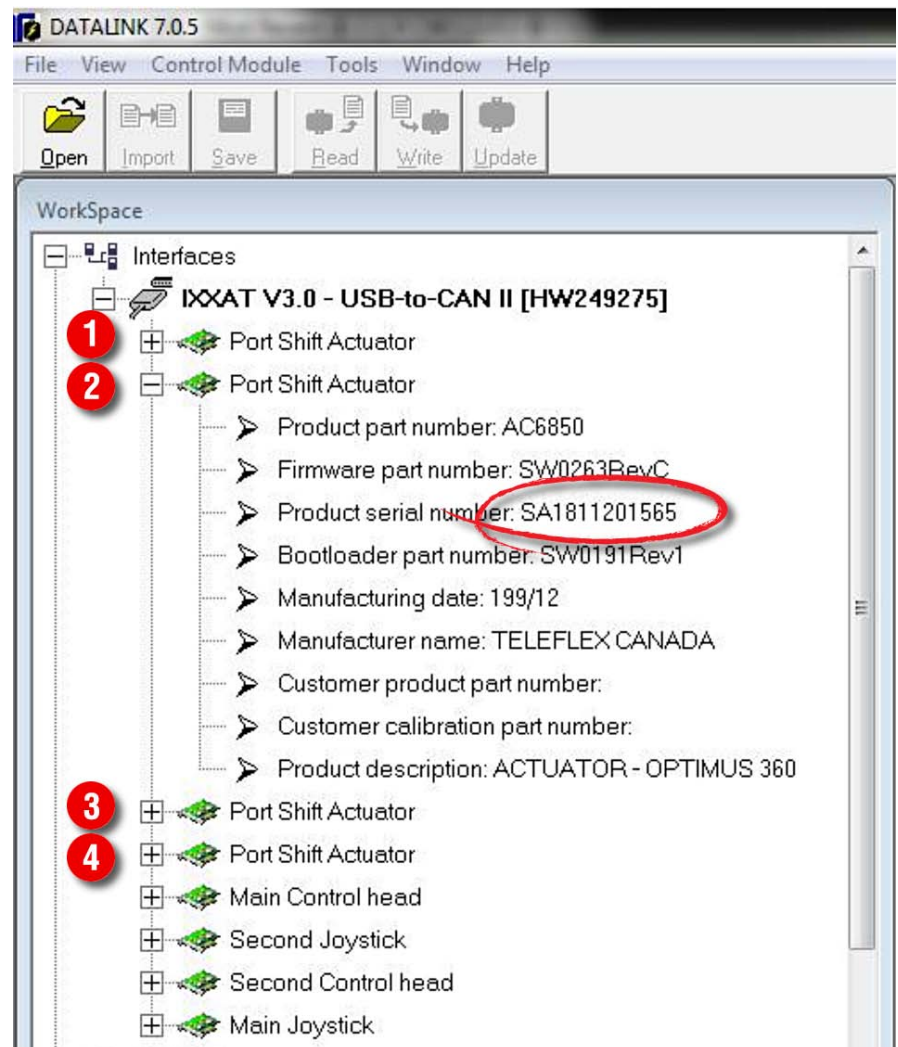

Figure B-2. Shift/Throttle actuator configuration.
3. Once Datalink opens, the Interfaces section of the Workspace should become populated with components connected to the network. If not, double click on Optimus CAN2 in the protocols section. The components should turn green as communication is established. See figure B-2 to familiarize yourself with the Datalink workspace.
1. In the Datalink workspace you should see four Port Shift Actuators as shown in figure B-2 below. Click on the + beside an actuator to view the part and serial number information associated with it.